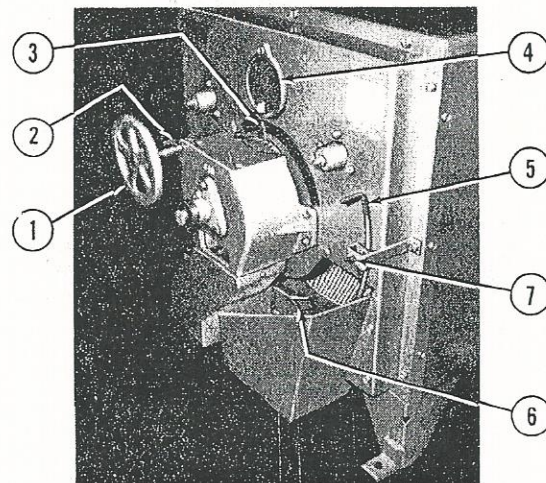

FIGURE 2 — Operating Controls
The retarder (6, Figure 2) dams up product at the discharge end of the cylinder until a wall is built up of product (C) for the entire length of the cylinder.
TROUGH CONTROL — Handwheel (1, Figure 2) is moved clockwise to lower the separating edge of the trough and counterclockwise to raise the edge. Position of trough is locked with Lockscrew (2, Figure 2). As a further aid to the location of the separating edge, pointer (3, Figure 2) is aligned with the edge and increments on decal can be used to record changes in settings.
INSPECTION PORT — Inspection Cover (4, Figure 2) can be pivoted to observe the position of the trough and separating action during operation.
RETARDER CONTROL — Retarder control rod (5, Figure 2) adjusts the position of the retarder (6, Figure 2) and is locked into position with wing nut and eye bolt (7, Figure 2). An increasing amount of product is held in the cylinder as the retarder is raised. When retarder is fully lowered, it is in the cleanout position and allows product to flow freely out of the cylinder.